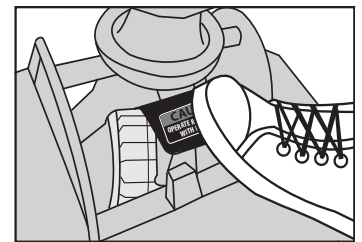
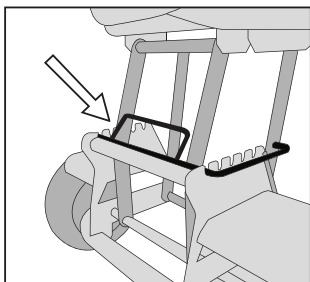

Figure 6
Figure 7
5. While holding top of tiller, step on tiller release foot pedal (Figure 6). Lift seat adjustment handle and lower seat onto platform (Figure 7).
3. Raise the seat adjustment handle and pull seat up (Figure 7).